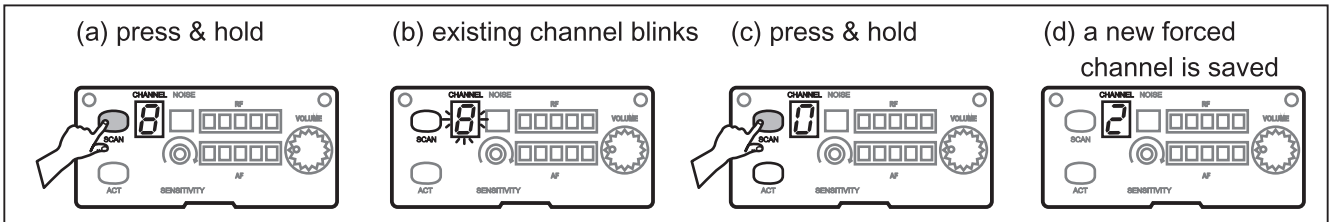

Fig. 6
Press and hold Channel (CH) button **A6** to perform a manual channel search. Existing channel blinks to denote it is ready to accept parameter changes. During blinking, press and hold Channel button to force the channel to go forward to the next channel in order. Release Channel button until a desired channel is located. This new channel is now saved. If Channel button is not pressed within six blinks, it stops blinking and reverts back to the existing channel, Fig. 6.